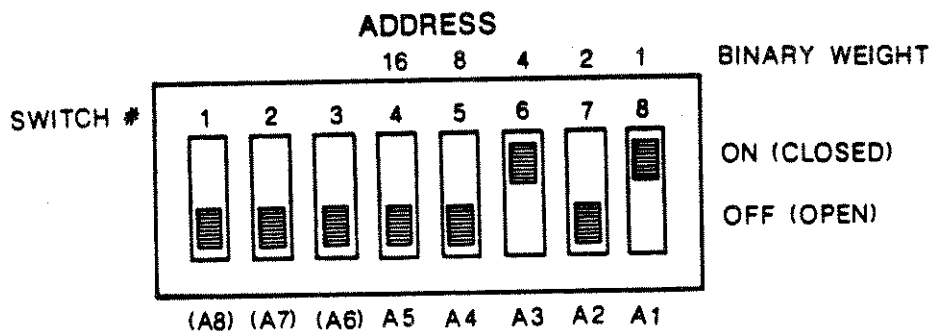

Figure 4-1. Rear Panel DIP Switches
**4-1.3 DAV Address.** The addresses that the DAV will respond to are set by the rear panel ADDRESS DIP switches A5 through A1 (see figure 4-1 and table 4-3). Figure 4-1 shows the rear panel DIP switch and table 4-3 shows the available device address codes. The IEEE-488 address is programmed by setting address switches A5 through A1 to the binary value of the desired address. For example, to set the DAV to address 5: